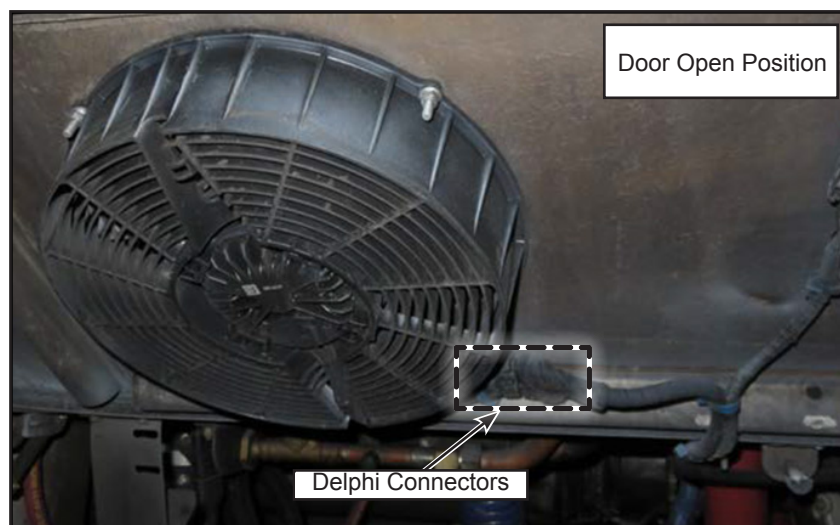

Figure 3 - Typical Engine Door Fan Delphi Connectors Installation
- 1.9. Open the engine compartment door and locate the engine fan Delphi connectors (see figure 3).